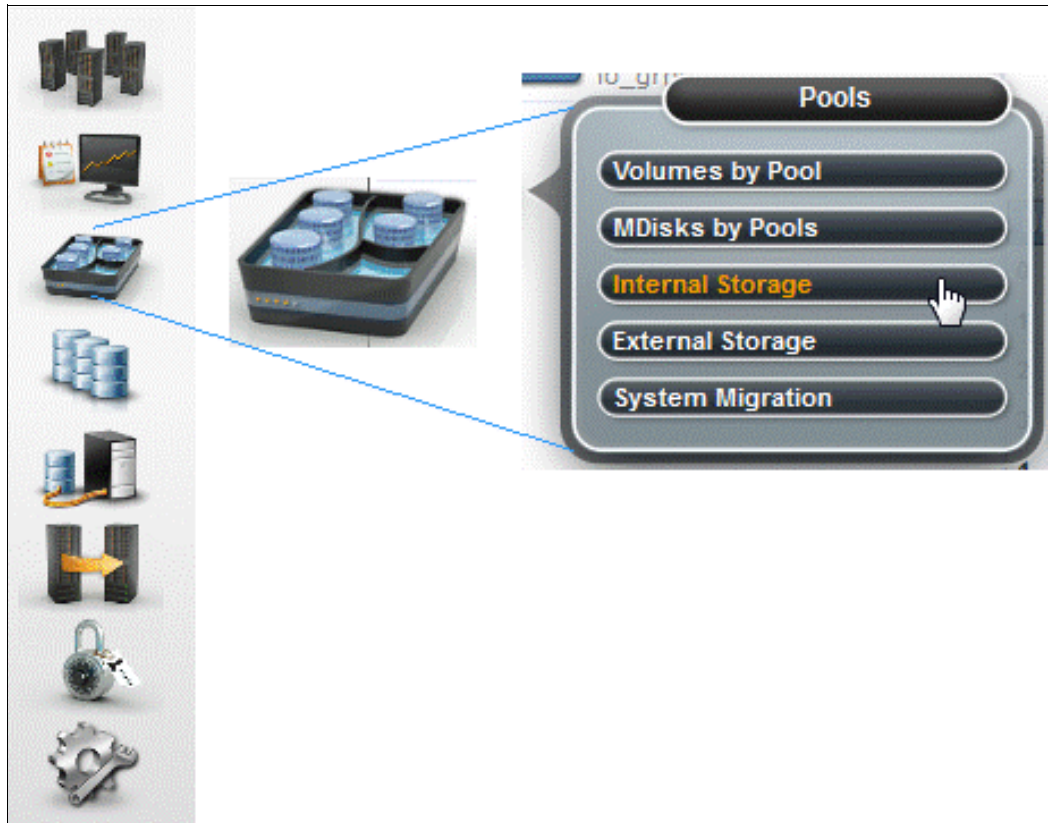

Figure 9-5 Pools menu
1. Hover your cursor over the Pools icon and the system displays the Pools menu (Figure 9-5).